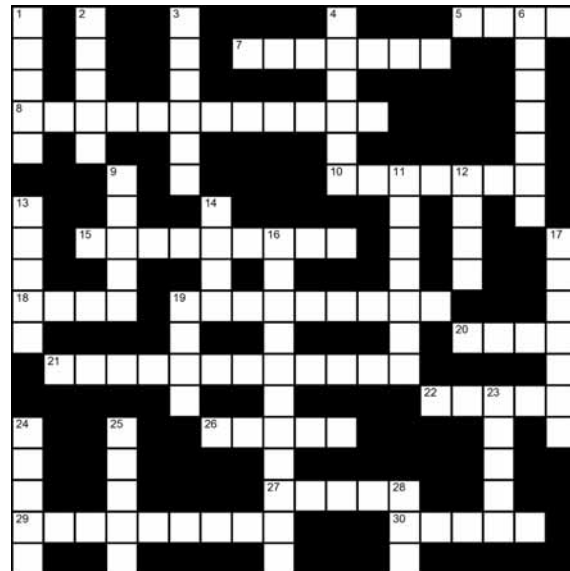

Fig.11.1. Common terms used in electronics
11.1. Solve the crossword shown in Fig.11.1.